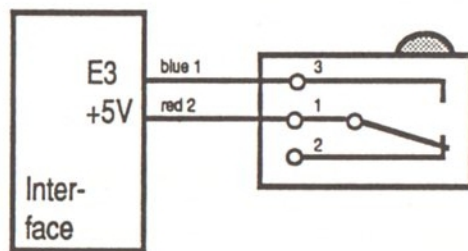

Fig. 4.3: Pushbutton-interface connection
Now you know the difference between switches and pushbuttons. When you operate a switch - e.g. the light switch in your room - it stays in this position (OFF or ON). A pushbutton has a home position; when it is pressed, it switches over, and when it is released, it goes back to its home position. Now let's use the pushbutton in connection with the interface. Wire it as shown in Fig. 4.3. Terminal 1 is connected to the +5V
In this case the value will be "0", i.e. the connection between 1 and 3 is interrupted as you can see in Fig. 4.3. No voltage is applied to E3. Now press the pushbutton and enter the above commands again. The value "1" will now be displayed on the monitor: The switch contact is closed and +5V is applied to E3. Contact 3 is usually called a make contact or a normally open (NO) contact because it closes when the pushbutton is operated.
Therefore, the pushbutton is in the OFF position when it is connected to terminal 1 and 2, as you can see in Fig. 4.3. This contact is therefore called a break contact or a normally closed (NC) contact because it opens when the pushbutton is operated. Try the different switch circuits with the program. You will need them quite often later for controls and counts.